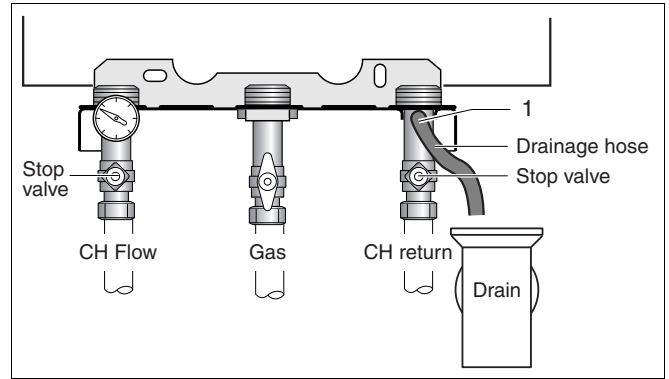

fig. 42 Draining the boiler
- Connect drainage hose (fig. 42).
- Connect draining hose to draining point on the manifold (fig. 42, item 1).
- Open draining point to drain the boiler (fig. 42, item 1).